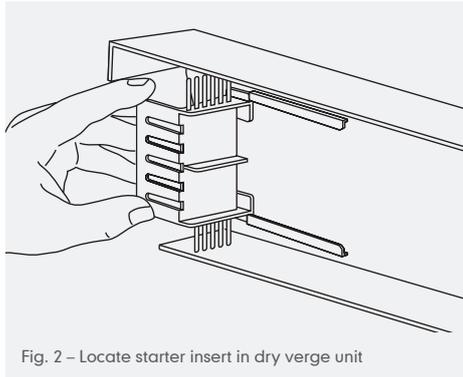

Fig. 2 – Locate starter insert in dry verge unit
- 5 Slide starter insert into internal fixing channels of dry verge unit, and position assembly over eaves roof tile into position at which it will be fixed (Fig. 2, page 147).